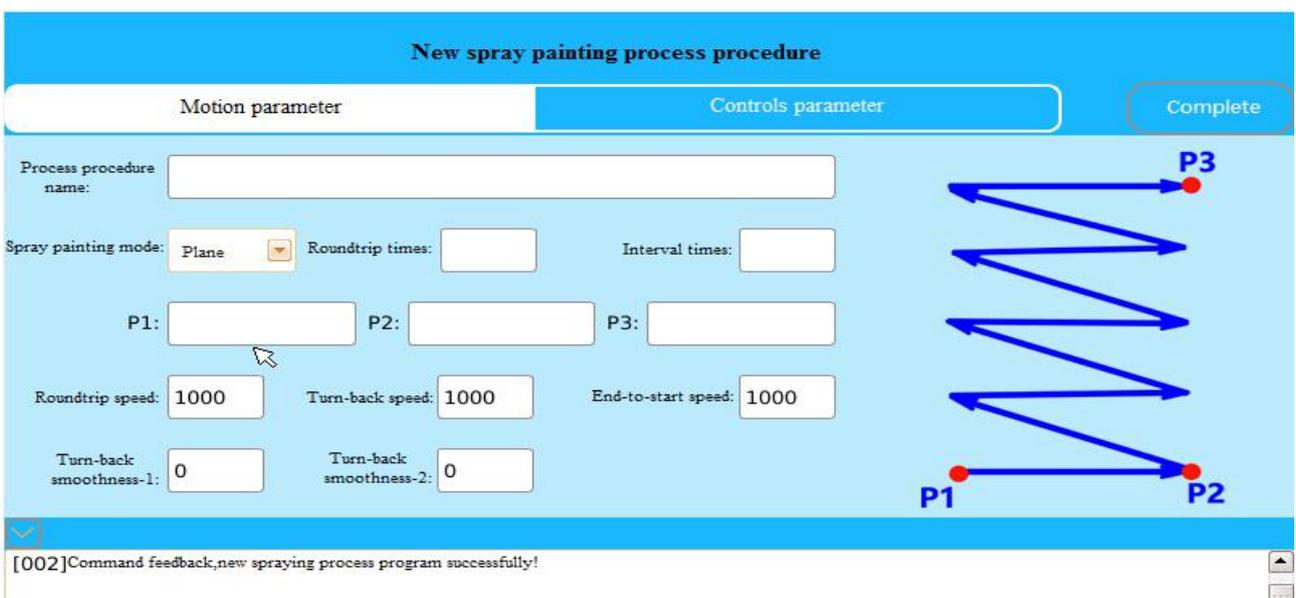

Fig. 4.17 “General plane spray painting process” Creation Interface
(2) Motion parameters of common plane spray painting mode: As shown in Fig. 4.17, the normal straight-line spraying mode is basically consistent with common linear spray painting mode, but the number of intersections and turn-back smoothness are increased. The “number of intersections” is to put the “P1” to the "vertical" of the “P3”.